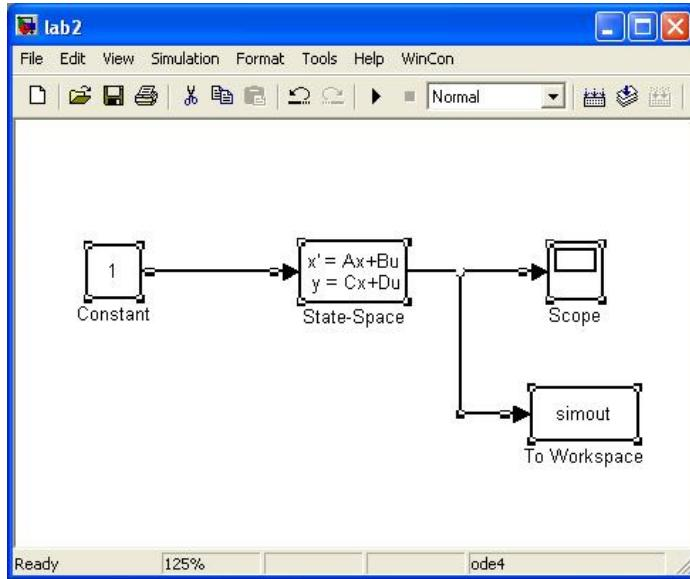

Figure 9.2: Simulink model for Lab 9
1. Build the Simulink model as shown in Figure 9.2. The model applies a constant voltage to the dynamic model defined by \mathbf{A} , \mathbf{b} , \mathbf{c} , and \mathbf{D} defined previously. The output is the current in the circuit.